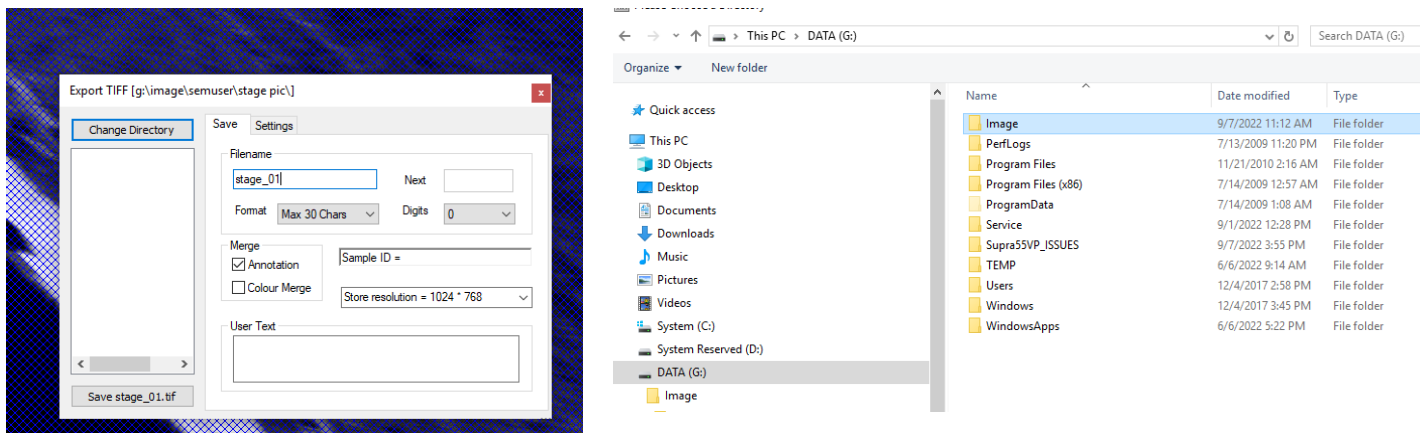

Figure 17
- Insert **File name**. Save image into **Data (G:) drive** and go to **Image** and save in your folder (**Figure 17**)